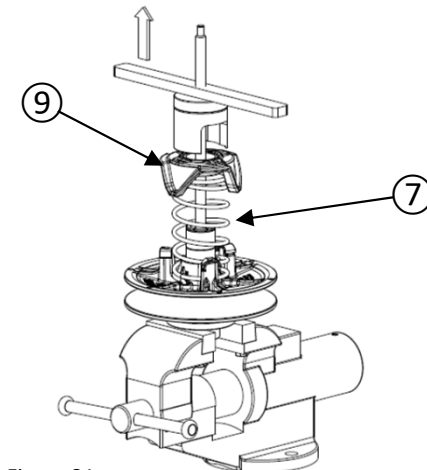

Figure 21
- Slowly unscrew the bar on the threaded rod to release the spring ⑦ tension (figure 21).
Never remove the bar from the disassembly tool until the cam ⑨ is in a free state (Figure 21).